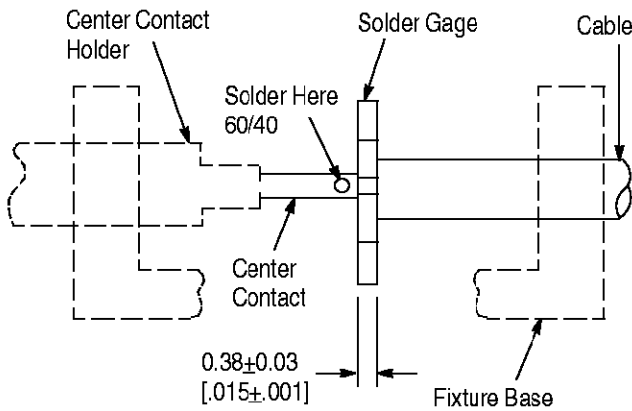

Figure 4
3.2. Soldering of Center Contact to Cable Inner Conductor (Figure 4)